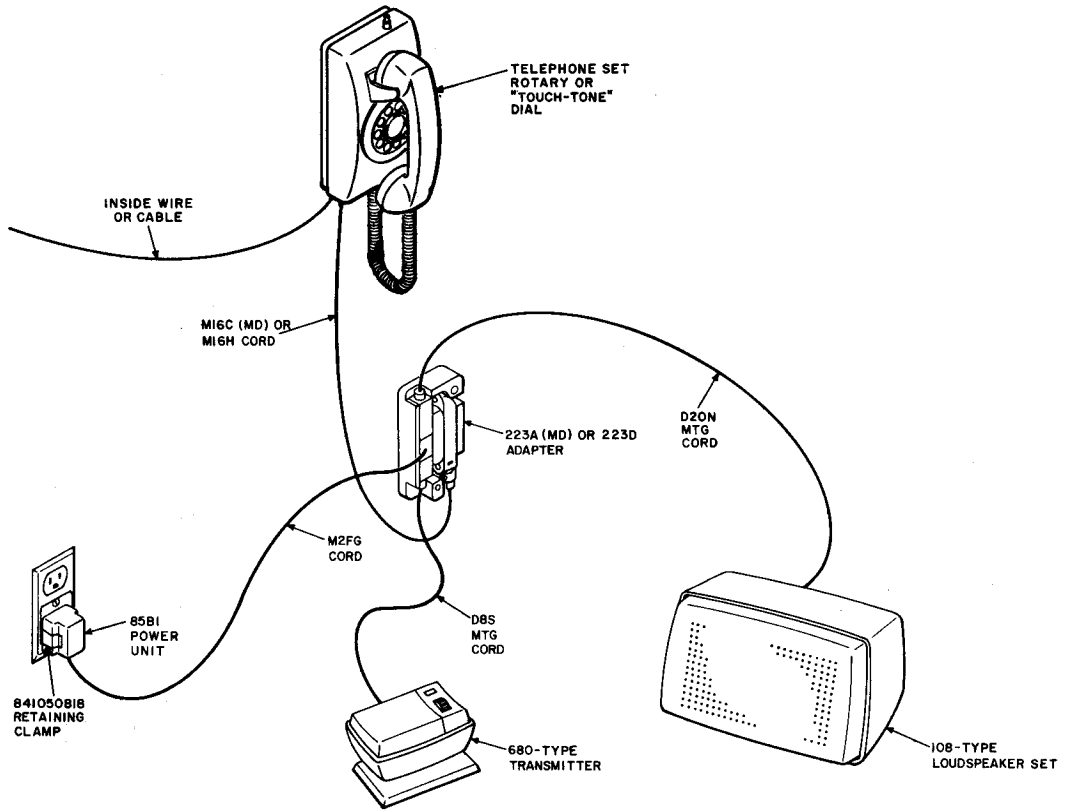

Fig. 1—Typical Grandfathered 4A Speakerphone System Arrangement, 558D, 558F, and 2558D Telephone Sets Using 223A (MD) or 223D Adapter
1.03 To provide 4A speakerphone feature at the 558- and 2558-type telephone sets, refer to Fig. 1 or 2 for layout arrangement of the components required for the system and Fig. 3, 4, 5, 6, or 7 for individual lead connections.
2.04 Power shall be supplied by connecting 85B1 power unit as shown in Fig. 1 or 2.